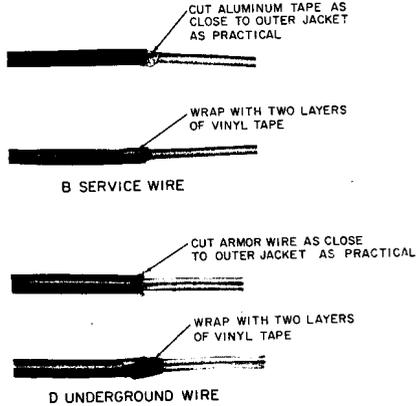
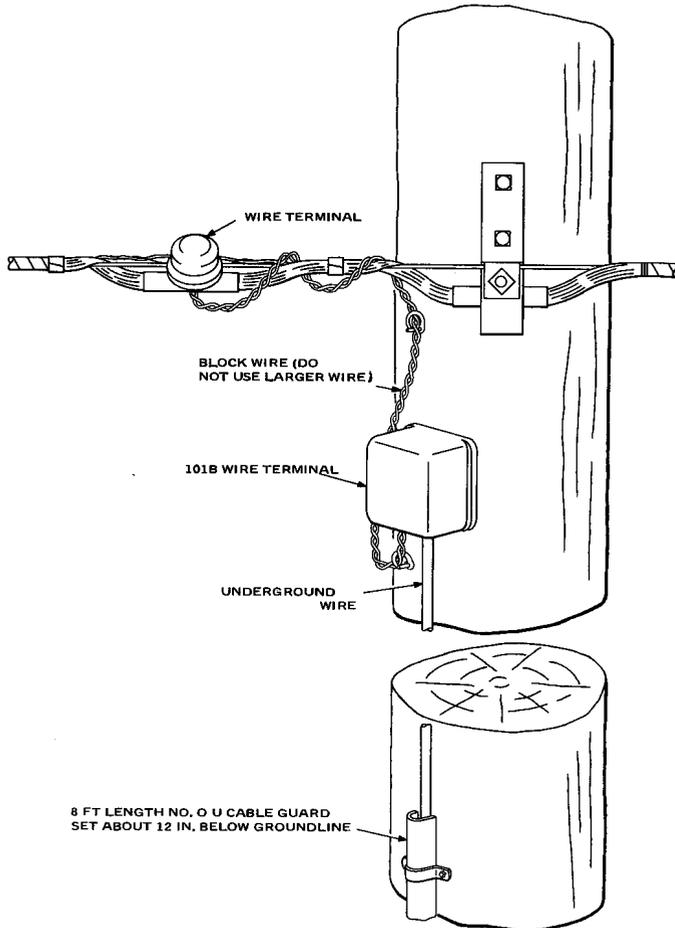
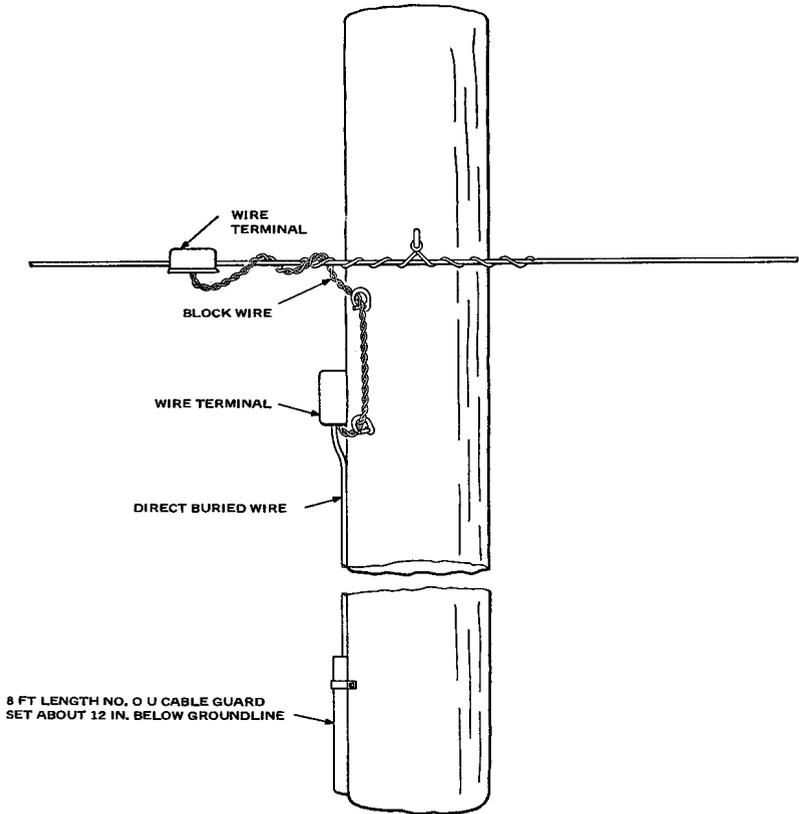
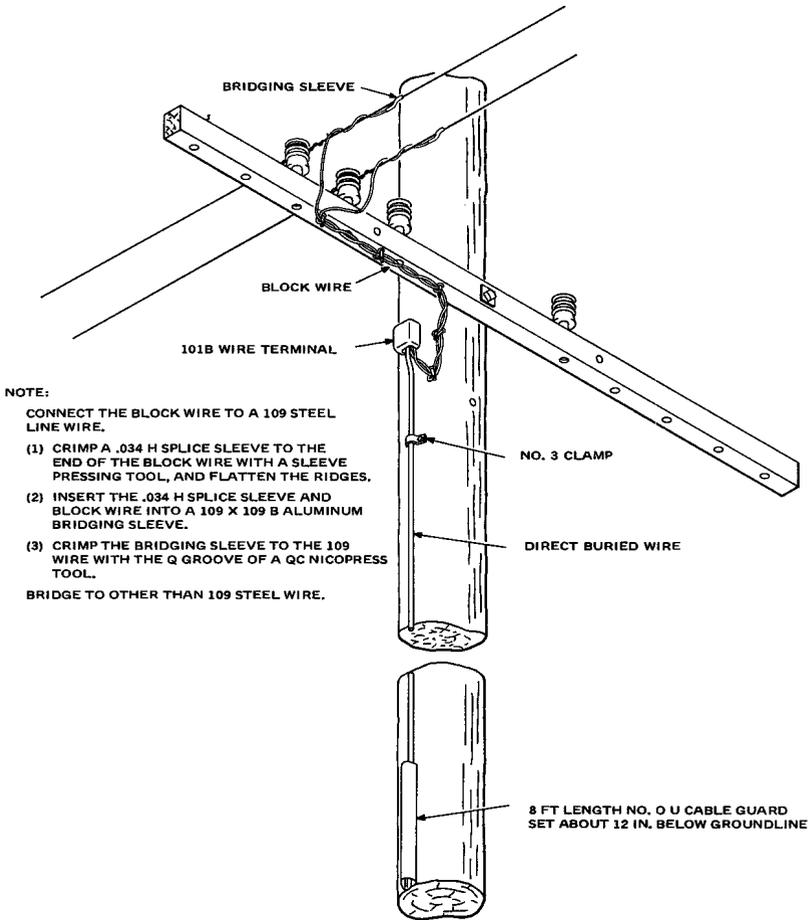

FIGURE 2. Removal of Aluminum Tape or Armor Wire
FIGURE 5. Underground Wire Terminated to Multiple Wire
FIGURE 6. Termination of Underground Wire and Rural Wire
FIGURE 7. Termination of Underground Wire and Open Wire
2.04 Where the direct buried wire is 500 feet or less in length, grounding of the armor wire or bronze tape at the cable terminal is omitted. Cut off the armor wire or bronze tape and wrap with two turns of vinyl tape to protect against sharp edges. See Figure 2.
3.02 Direct buried wire can be used with or fed from multiple wire where the multiple wire is exposed to power contact and fuseless station protection is used. Direct buried wire should be brought up a pole and terminated in a pole mounted wire terminal. At the groundline, the wire should be covered with an 8 foot length of No. 0 U cable guard. Cut off the armor wire as shown in Figure 2. Connect the conductors of the direct buried wire to the conductors of the multiple wire with block wire. Figure 5 shows a typical example of direct buried wire being connected to a strand mounted wire terminal.
4.02 At the junction with C rural wire, direct buried wire can be brought up a pole and terminated in a pole mounted wire terminal. At the groundline, the direct buried wire should be covered with an 8 foot length of No. 0 U cable guard. The armor wire should be cut off as shown in Figure 2. Block wire should be used to bridle between the pole mounted wire terminal and the strand mounted wire terminal on the C rural wire. A typical installation is shown in Figure 6.
5.02 At the junction with open wire, direct buried wire can be brought up a pole and terminated in a pole mounted wire terminal. At the groundline, the wire should be covered with an 8 foot length of No. 0 U cable guard. The armor wire should be cut off as shown in Figure 2. Block wire must be used between the protector and the open wire. A typical installation is shown in Figure 7.